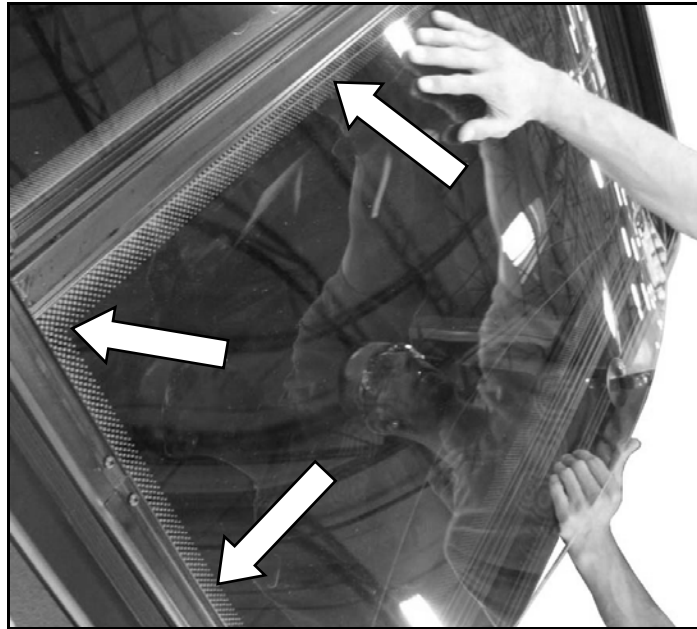

FIGURE 3-15. INSTALLING UPPER CORNERS
- 7) Refer to **Figure 3-15**. Insert window liner into both upper corners and sides.
- 8) Refer to **Figure 3-15**. Allow window liner to bow in the middle to allow insertion of both sides and top first.
- 11) Refer to **Figure 3-15**. Lower corners are then installed which may require that window liner be bowed at bottom, center part of Liner.